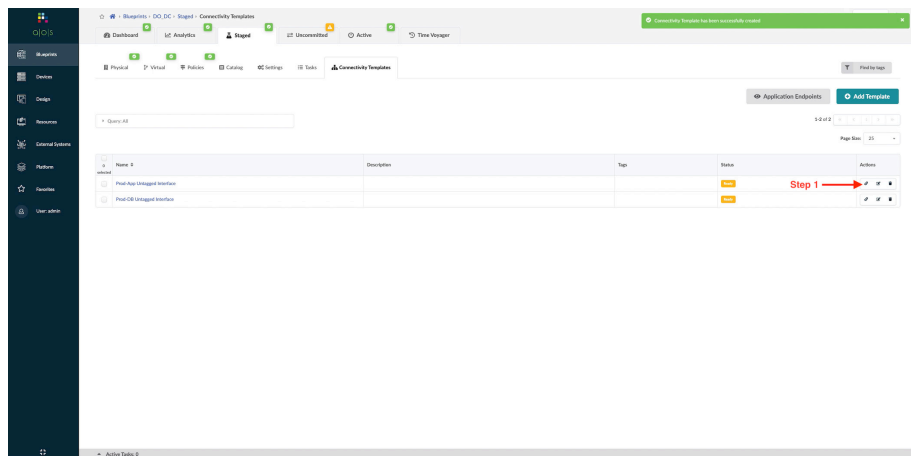

Figure 5.19 Assigning a Connectivity Template via Apstra
Step 1: Under Staged > Connectivity Templates click the chain icon for the desired VNI. See Figure 5.19.